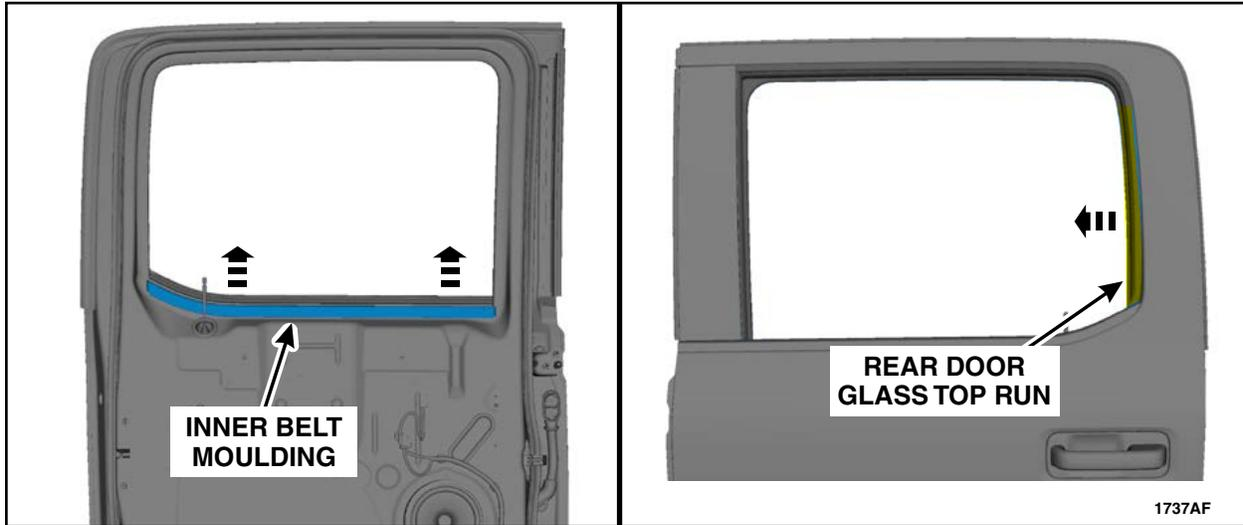

FIGURE 38
10. Remove the rear door inner belt moulding and position aside the latch side of the door glass top run. See Figure 38.
24. Reinstall the rear door glass top run and inner belt moulding. See Figure 38.